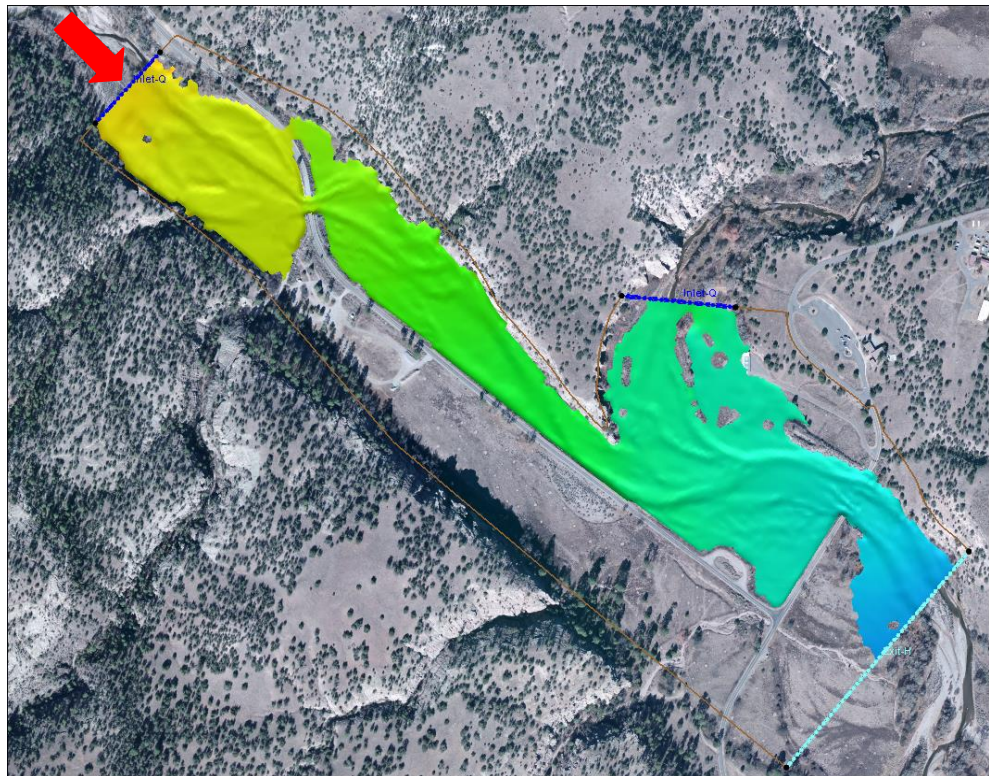

Figure 7 *Inlet Q boundary condition*
4. Use the **Select Feature Arc**  tool to double-click on the *Inlet Q* boundary condition shown in Figure 7. This should open the *Linear BC* window.